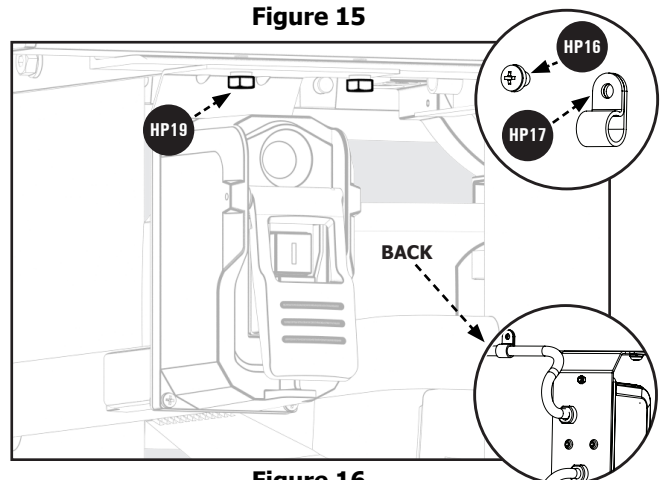

Figure 16
4. Fix the hanging Power Cord at rear side of Front Rail by Wire Clip (HP17) and M5 x 6mm Phillips Head Screw (HP16). See Figure 16.